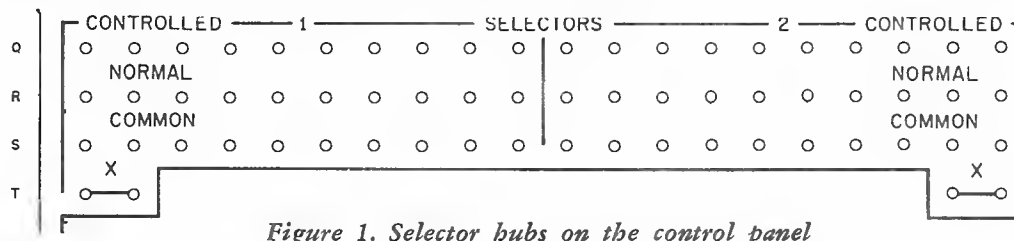
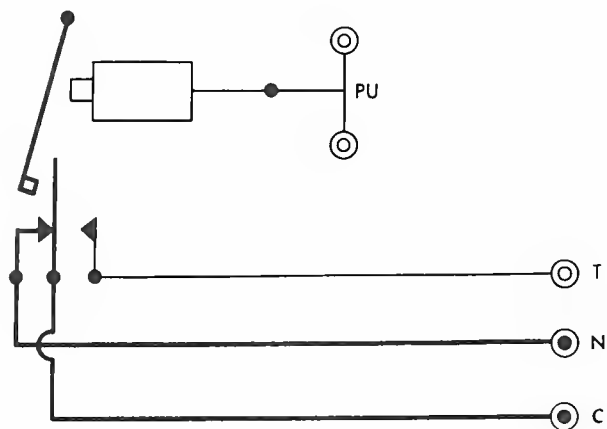

Figure 1. Selector hubs on the control panel
Figure 4. Selector and X-Pickup hubs in Normal condition.
Before we discuss the use of selectors, let us study the theory behind the use of this concept. You will notice in Figure 1 that there are 20 vertical sets of three hubs each in the selectors illustrated. The bottom row is called "Common"; the middle row is called "Normal"; and the top row is called "Controlled." Once we learn the function of any one of these 20 sets, we will understand all of them, just as once you understand how one X-Eliminator works, you can use any of them.
The device used to permit us to make a decision with an IBM machine is called a Selector. Two selectors are available with the 552 Interpreter. Their location on the control panel is immediately below the type bars. Figure 1 illustrates the Selector portion of the control panel.
Refer to Figure 1 once again. On line T, hubs 1 & 2 and also hubs 19 & 20 are marked "X". These are referred to as "X" Pickup hubs. X-Pickup hubs are unique in that they will not recognize or accept any impulse but an impulse generated at "X" time (the time an X is being read by the reading brushes). The X-Pickup hubs are in turn connected internally to the selector magnets. Let us refer to Figures 4 and 5 below and see if we can visualize what happens internally as a selector transfers.
1. Assume that the first card passing through the machine is a NX card (this means No X in Column 21). The condition of the selector at this time is Normal. Therefore, wiring a reading brush impulse from a column into the Common hub of the selector will cause the same impulse to come out of the Normal hub. (See Figure 4.)